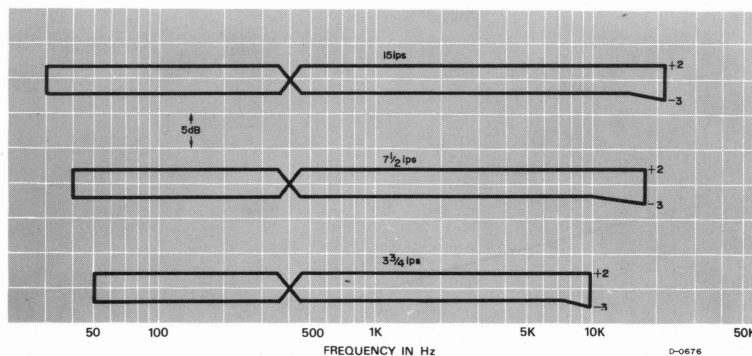

Fig. 7-3 Frequency Response Limits -Playback-
14. Compare the readings obtained on the level meter with the response limits given in Fig. 7-3.